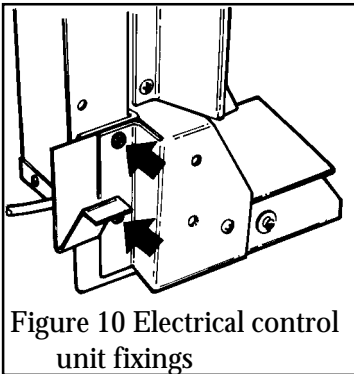

Figure 10 Electrical control unit fixings
- 2) Detach the control unit from the convection box left side flange by removing two screws (see figure 10). Carefully pull the unit slightly forward.